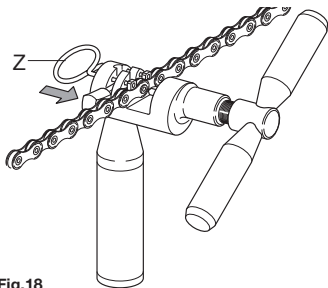

Fig.18
- Lock the link by means of the special locking device (Z - **Fig. 18**).